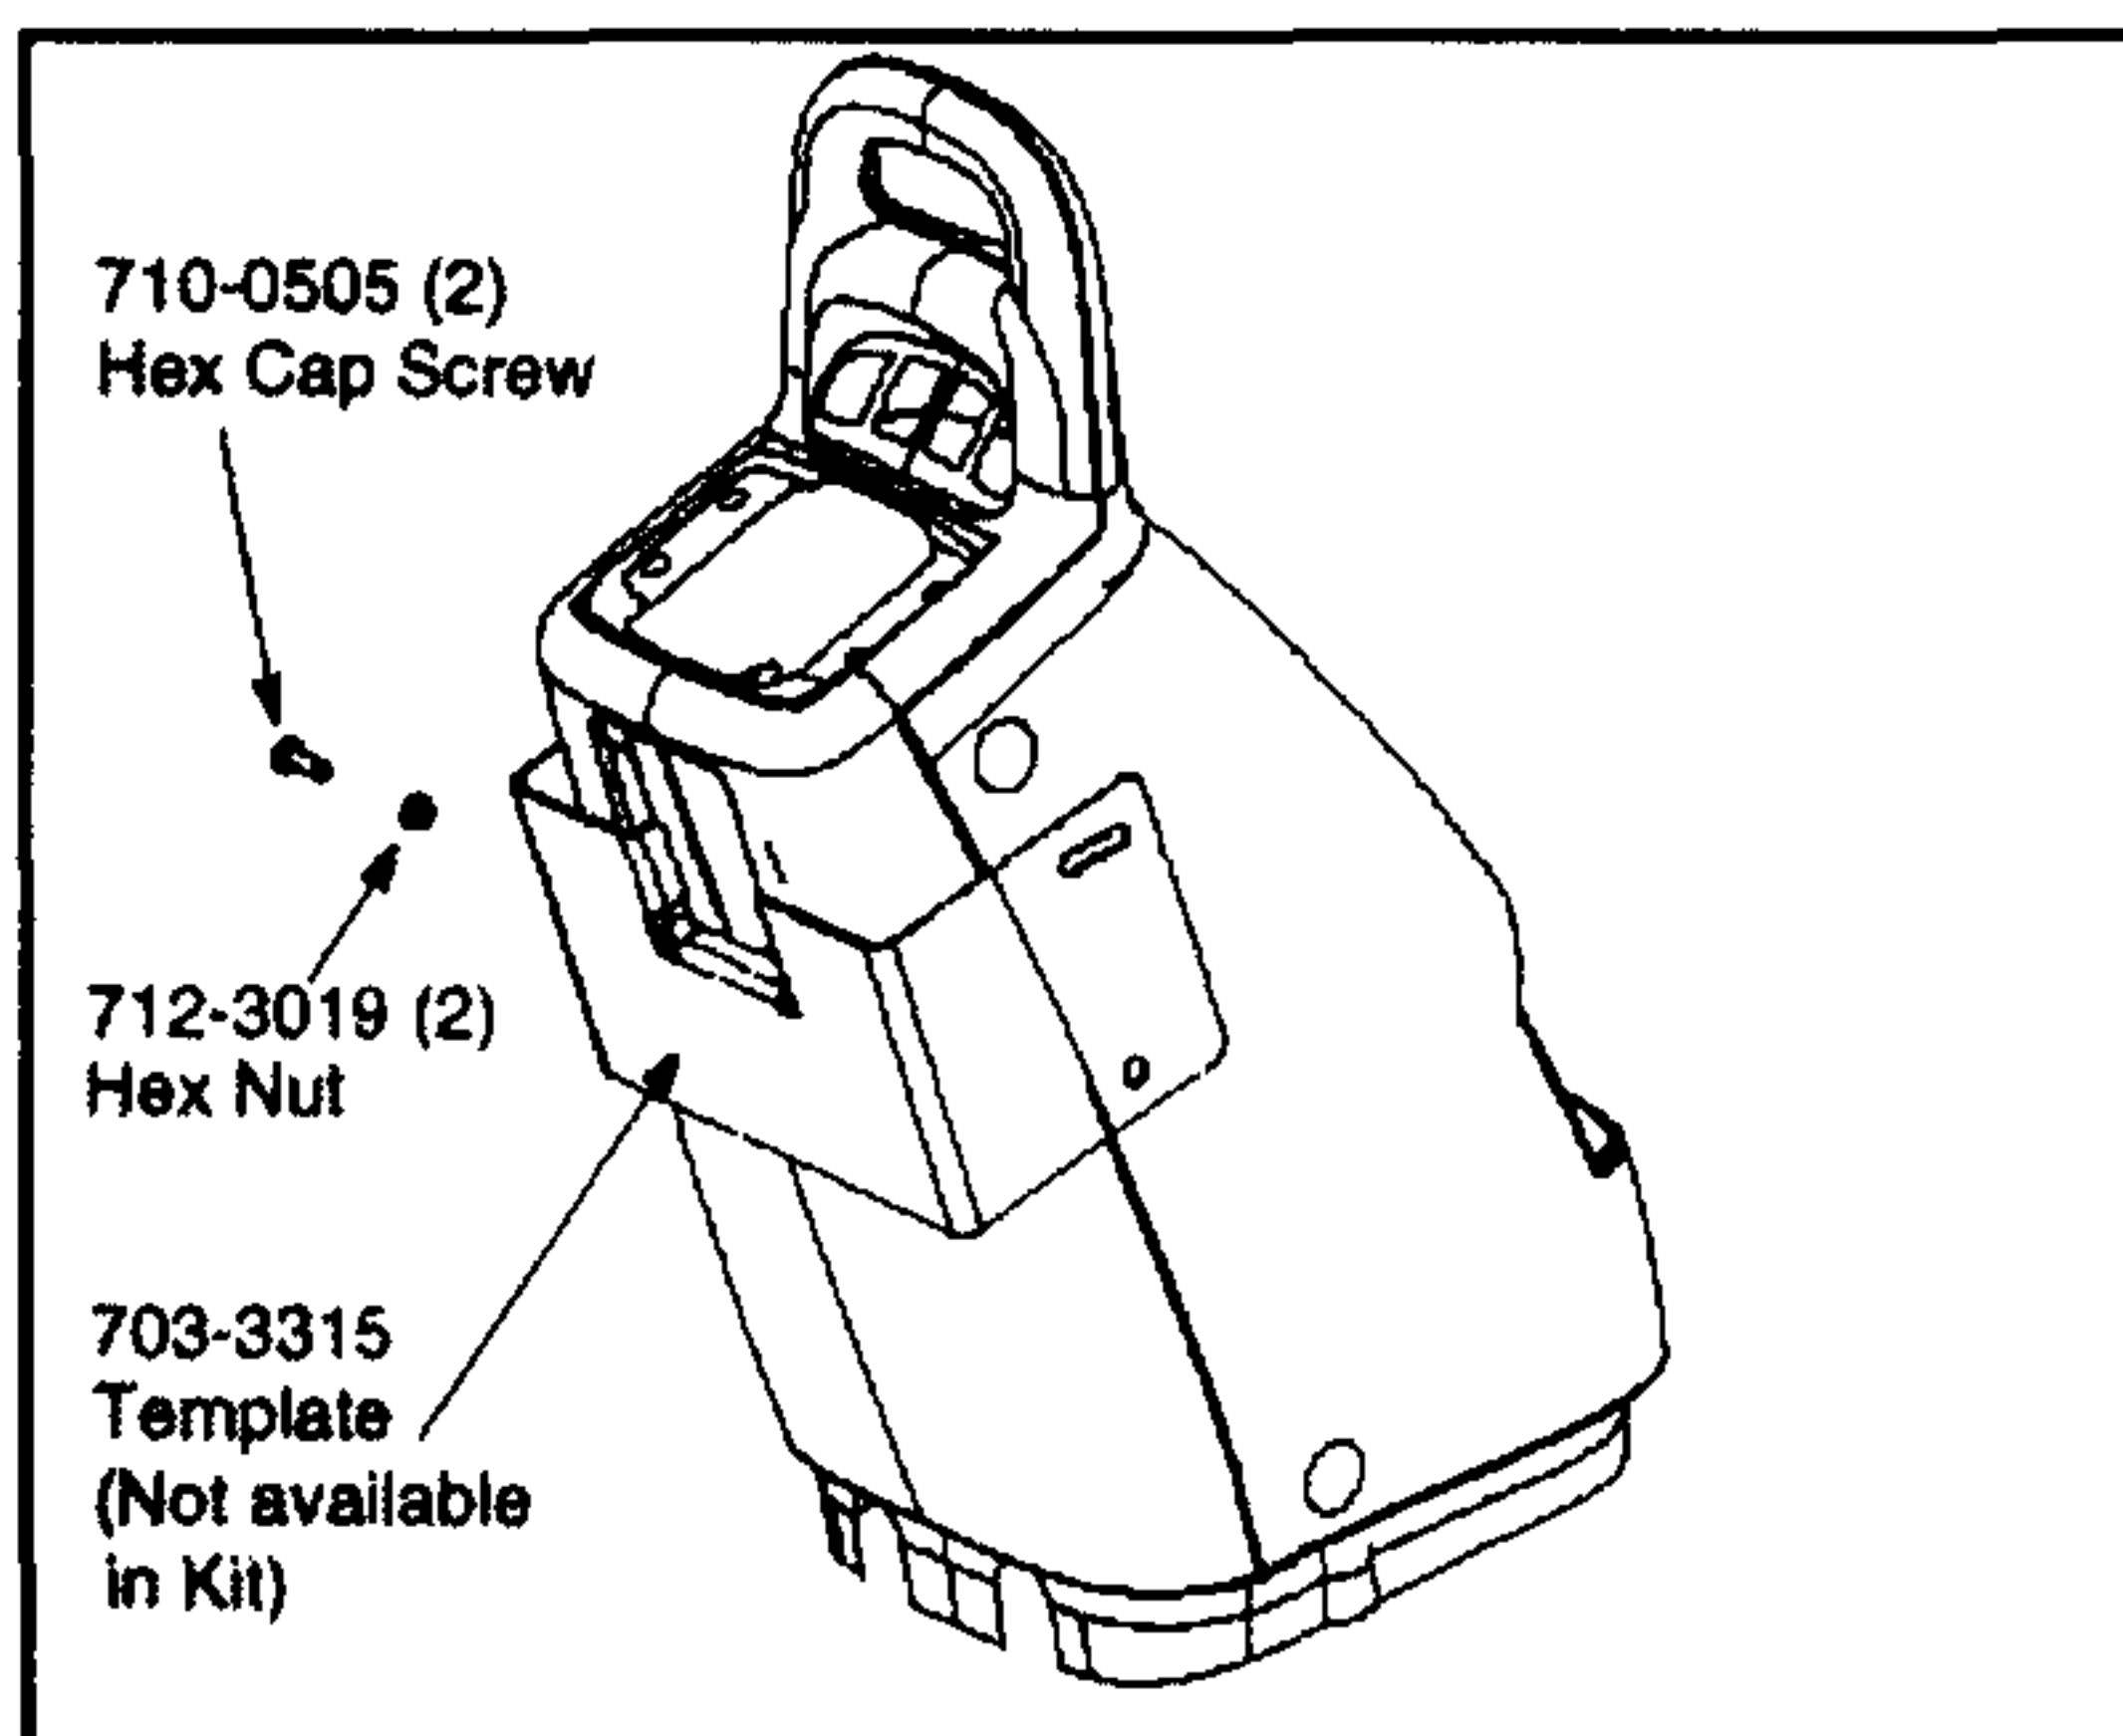

Figure 2
5. Clamp the template (703-3115) to the plastic console. Be sure to position the template on the console by using the tabs centrally located. Push the template down to insure proper position. See Figure 2.
6. With a drill and a 1/4" drill bit, route out the two bottom holes on the template. See Figure 2.
8. Route out the two slots on the plastic console as shown. See Figure 2.
Warranty Allowance: NONE. Speed Control Kit (part number **759-3866**) will be available from Shelby Parts Distribution. Reuseable **template** (part number **703-3315**), as shown in figure 2, must be ordered with the first kit. Speed Control Kits and one template per dealer are being offered *NO CHARGE* (parts only - no warranty claim required) on retailed (customer must request) and in dealer stock units.